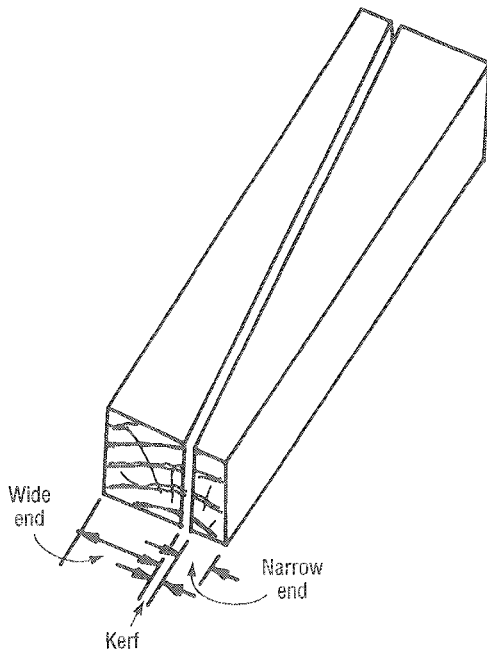

Fig. 1.25 Cut to marked line free hand.
1. Mark out the taper as required on to one of the timber pieces. Note that the timber must be at least as wide as one narrow end and one wide end of a firring plus the saw kerf (**Fig. 1.25**).